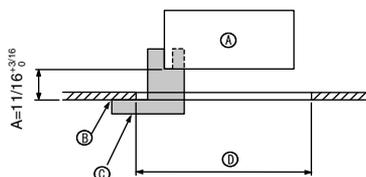

Fig. 9-2
①	Grille	1	950 x 950 (mm), 37-3/8 x 37-3/8 (inch)
②	Screw with captive washer	4	M5 x 0.8 x 25
③	Gauge	1	(Divided into four parts)
④	Fastener	3
⑤	Screw	4	4 x 8
⑥	Screw	1	4 x 12
⑦	Wired remote controller	1	for PLP-42BAMD
9.2. Preparing to attach the grille (Fig. 9-2)
- With the gauge ③ supplied with this kit, adjust and check the positioning of the unit relative to the ceiling. If the unit is not properly positioned relative to the ceiling, it may allow air leaks or cause condensation to collect.
- Ⓒ Gauge ③ (inserted into the unit)